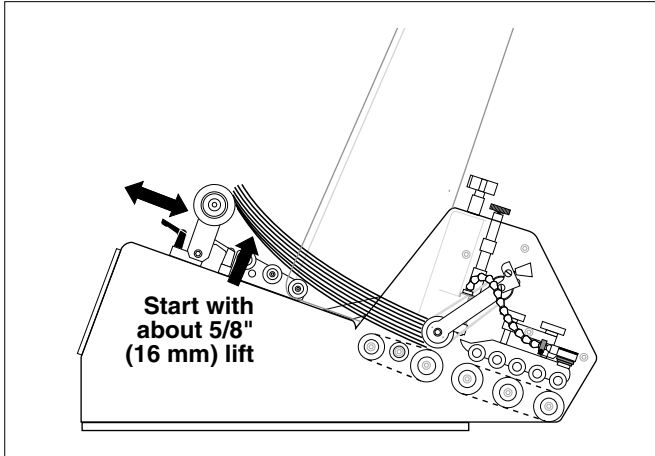
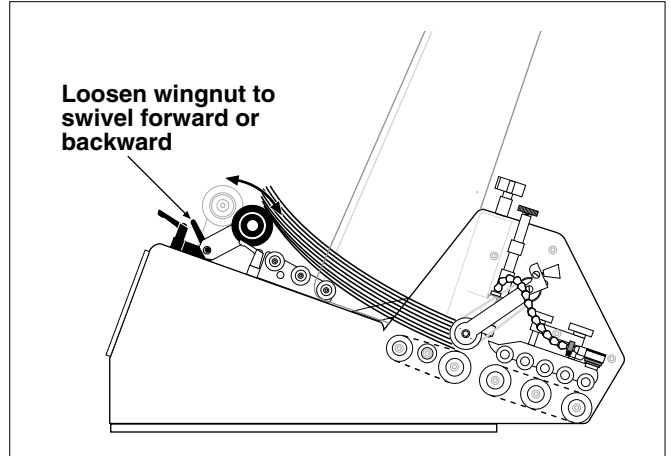

Figure 3-11. Adjusting Back Wedge for Proper Lift
Figure 3-12. Adjusting Roller Position
4. Move the back wedge forward and backward until the bottom sheet is not touching the table top (Figure 3-11). A good starting point is to measure about 5/8 in. (16 mm) from the bottom sheet to front edge of table top. Then as you test, you can “fine tune” from this point. *You can also fine tune back wedge location by loosening the roller swivel wing-nut to pivot the rollers back and forth (Articulating Roller Wedge only (Figure 3-12).*